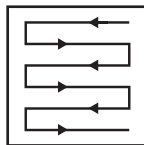

Fig. 19
5. Mow in slight overlapping rows. The most effective pattern for mowing lawns is straight lines along one of the sides. This will keep the rows even and ensures that all the lawn is cut without missing any spots (Fig. 19).